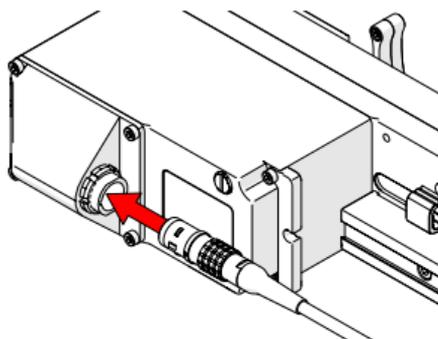

Fig. 49 - Plug raster arm cable into raster connector
1. Plug the supplied raster arm cable into the raster arm's connector (Fig. 49).